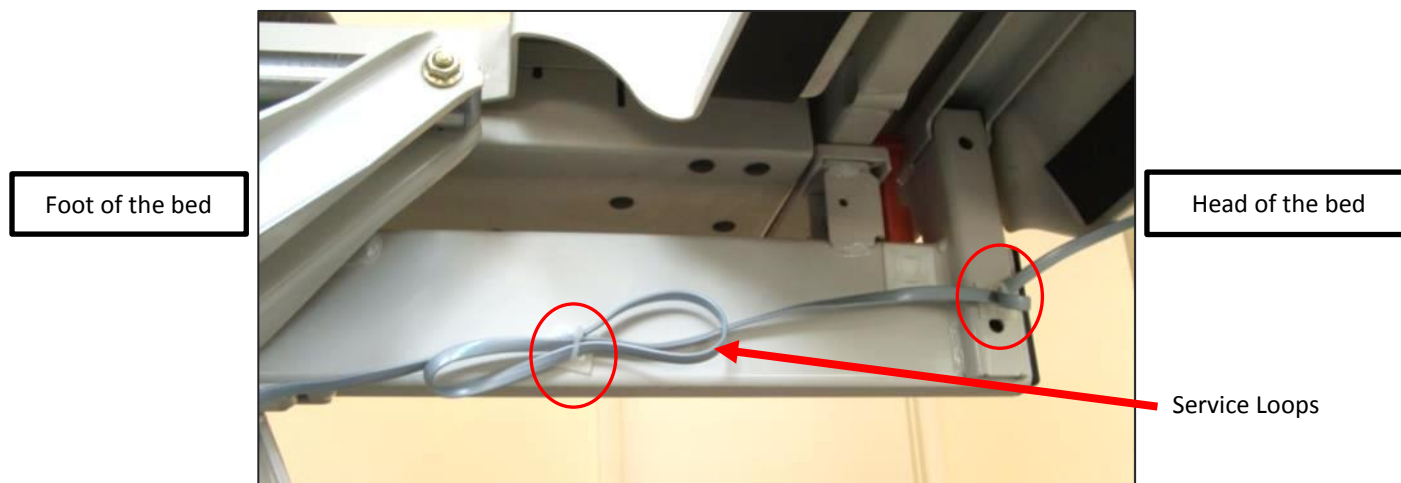

Figure 8. ALP Sensor Cable Routing and Cable Tie Holder Placement
3. Place cable tie holders and route the ALP Sensor cable along the inside rail and tie down any excess cable (Service Loop) as shown (see Figure 8).